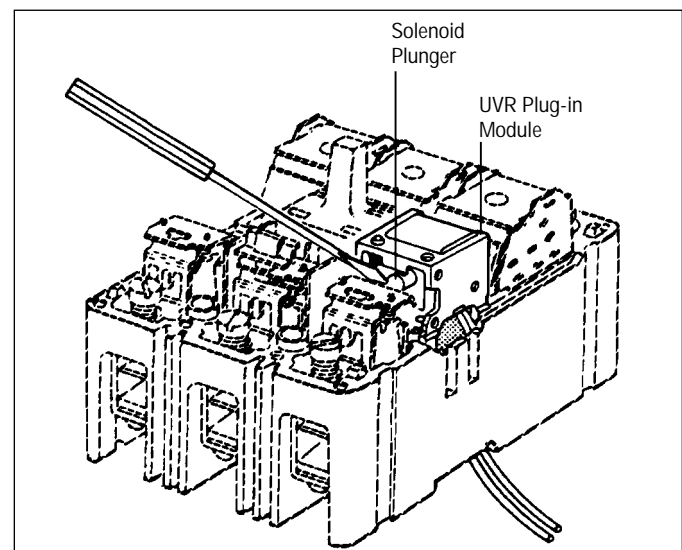

Figure 2-8 Screwdriver Depressing Undervoltage Release Mechanism Solenoid Plunger
- b. Mechanical check. Hold UVR plug-in module firmly in position in the base. Using a small flat-blade screwdriver as shown in Figure 2-8, push in and hold solenoid plunger. Reset and switch circuit breaker to ON. Release solenoid plunger and check that circuit breaker trips.